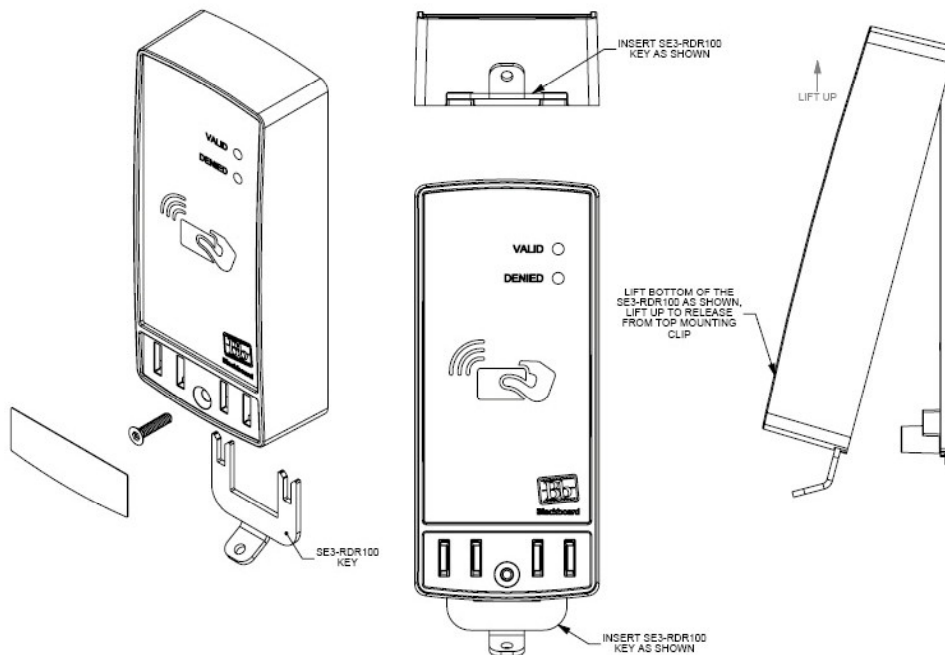

Figure 1-10 SE3-RDR100 Mounting Removal
- Figure 1-10 SE3-RDR100 Mounting Removal9